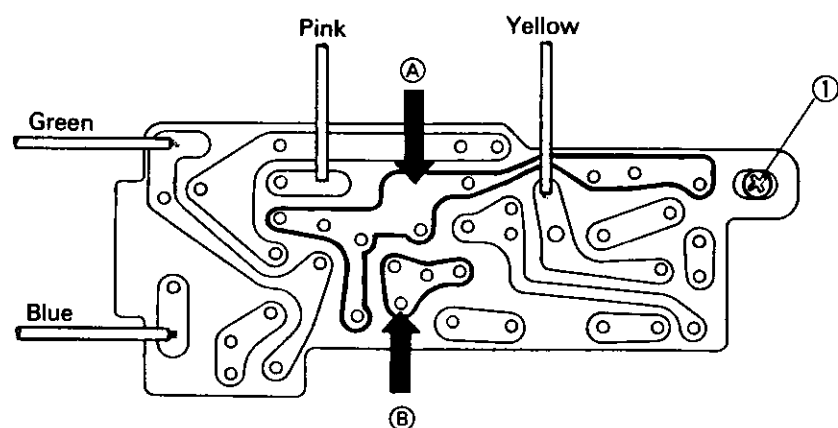
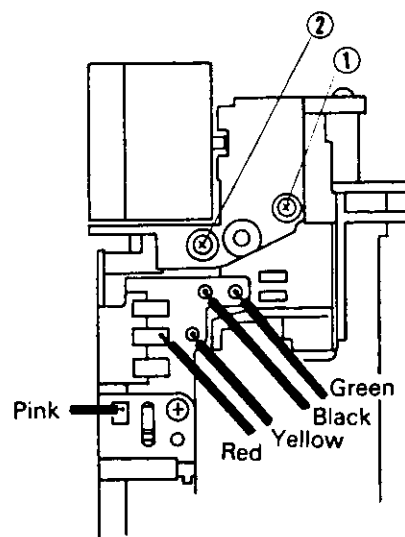

Fig. 2
Fig. 3
- (1) Take off the screw (No. 1).
- (2) Remove the Top cover (No. 2).
- (3) Remove the Release button (No. 3).
Note: To avoid the electric shock, discharge the electricity between ① and ②, using a shunt resistor (Approx. 500Ω , 2W) shown in Fig. 2.
- (1) Remove the Blue lead wire shown in Fig. 2.
- (2) Remove five Lead wires (Pink, Yellow, Green, Red, Black) shown in Fig. 3.
- (3) Take off the Screw (Fig. 2 No. 1), and two Screws (Fig. 3. No. 1, 2).
- (4) Remove the Flash ass'y.